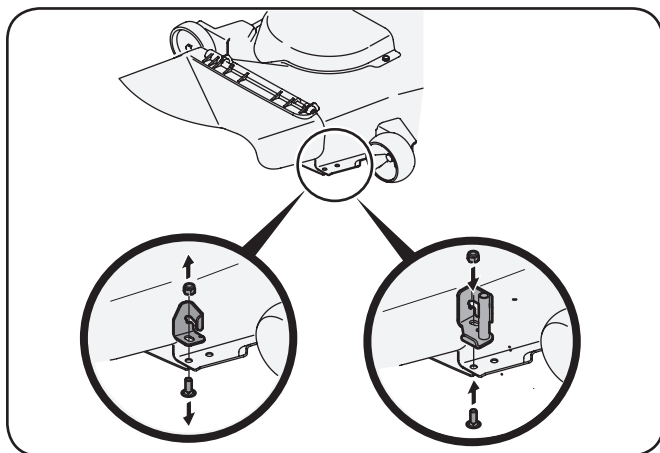

Figure 4-16
1. Remove the carriage bolt and lock nut holding the chute stop to the deck. See the left Inset of Figure 4-16. Retain the carriage bolt for reinstallation.
2. Replace with new chute stop bracket, from the bagger kit, at the same position on the deck. See the right Inset of Figure 4-16. Secure with the carriage bolt previously removed, and a 712-04065 flange lock nut from hardware pack 689-00326.